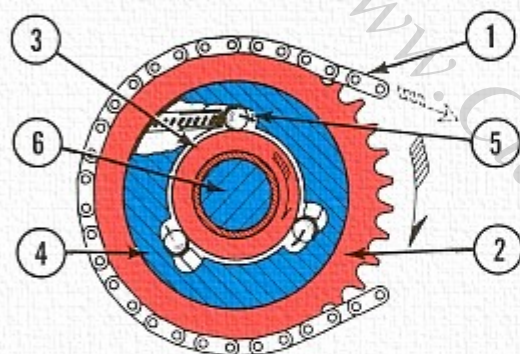

Fig. 86 Overrunning Clutch (viewed from side of engine)
Fig. 86 and 87 show cross sectional views of an overrunning clutch. The particular type illustrated is installed on the engine crankshaft and is chain driven, like the starter clutch used in Honda CB-360 and CB-500T motorcycles.
The starter motor drives the chain ① and its sprocket ② in the direction shown in Fig. 86 (some Honda models use a gear rather than a chain and sprocket). The clutch housing ④ is attached to the engine crankshaft ⑥ (some Honda models mount the clutch housing on a transmission shaft). Starter engagement is achieved by locking the sprocket to the clutch housing, and disengagement is achieved by unlocking these parts. Spring loaded rollers ⑤ in the clutch housing perform this locking/unlocking function.